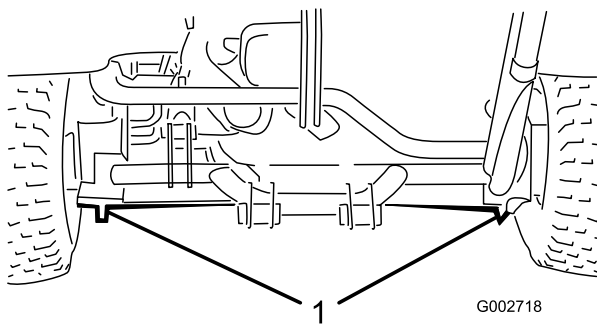

Figure 19
- Left or right side-under the rear wheel motor or the frame (Figure 19).